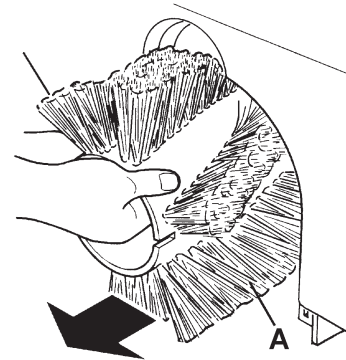

Figure 7
6. Remove the main broom (A, Fig. 7).